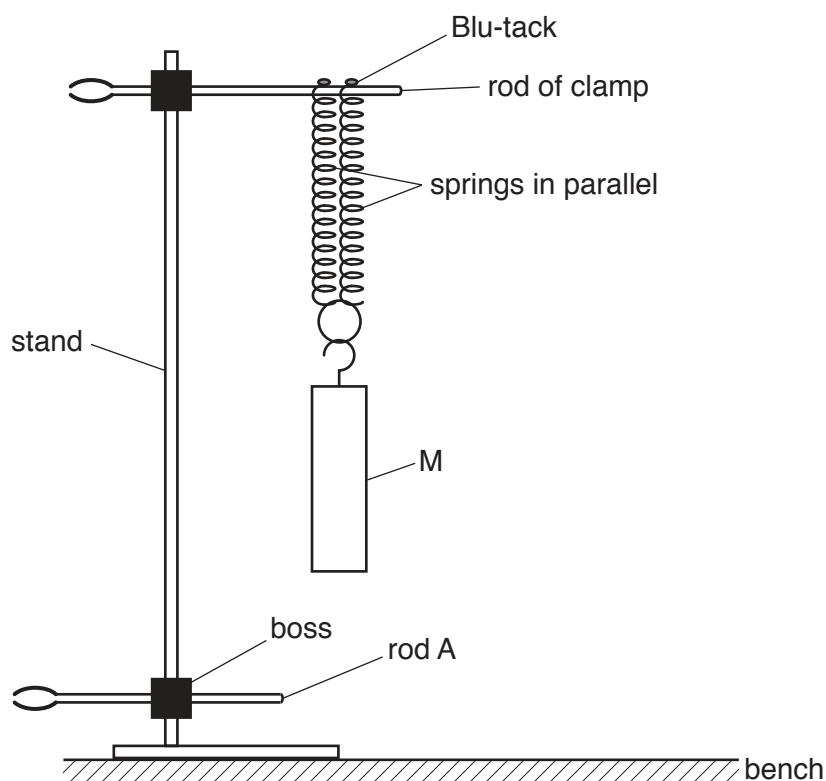

Fig. 1.1
3. The Supervisor should set up the apparatus as shown in Fig. 1.1. The loops at the tops of the springs should be about 2cm apart on the rod of the clamp and each held in place by a small piece of Blu-tack. The hook of the mass hanger should pass through the bottom loop of both springs. The second clamp should be held on the same stand, close to the bottom of the stand. The rod of the clamp should be on the same side as the springs.
4. At the changeover the Supervisor should restore the apparatus as shown in Fig. 1.1. The mass M will need to be suspended from both springs and the second clamp moved to the bottom of the stand.